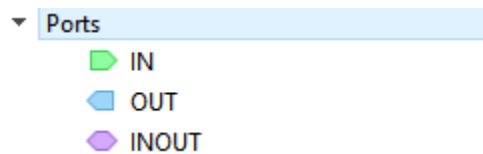

Figure 3.18. Three Port Types
- Click **Ports** from the Meta Data Tree, three port types (IN, OUT, INOUT) (Figure 3.18) are listed.